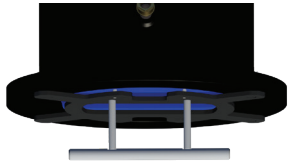

Figure D-11
**D1.17)** Once threaded studs are aligned, insert cartridge until cartridge alignment plate is flush with insertion housing flange face (see Figure D-11).